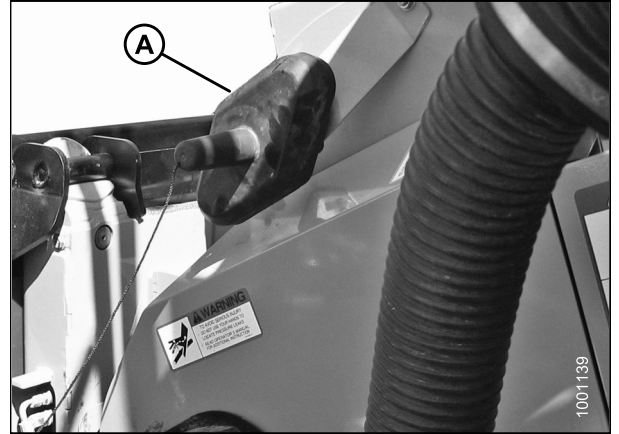

Figure 4.30: Receptacle Cover
13. Place float module receptacle cover (A) onto the combine receptacle as shown in Figure 4.30, page 63.